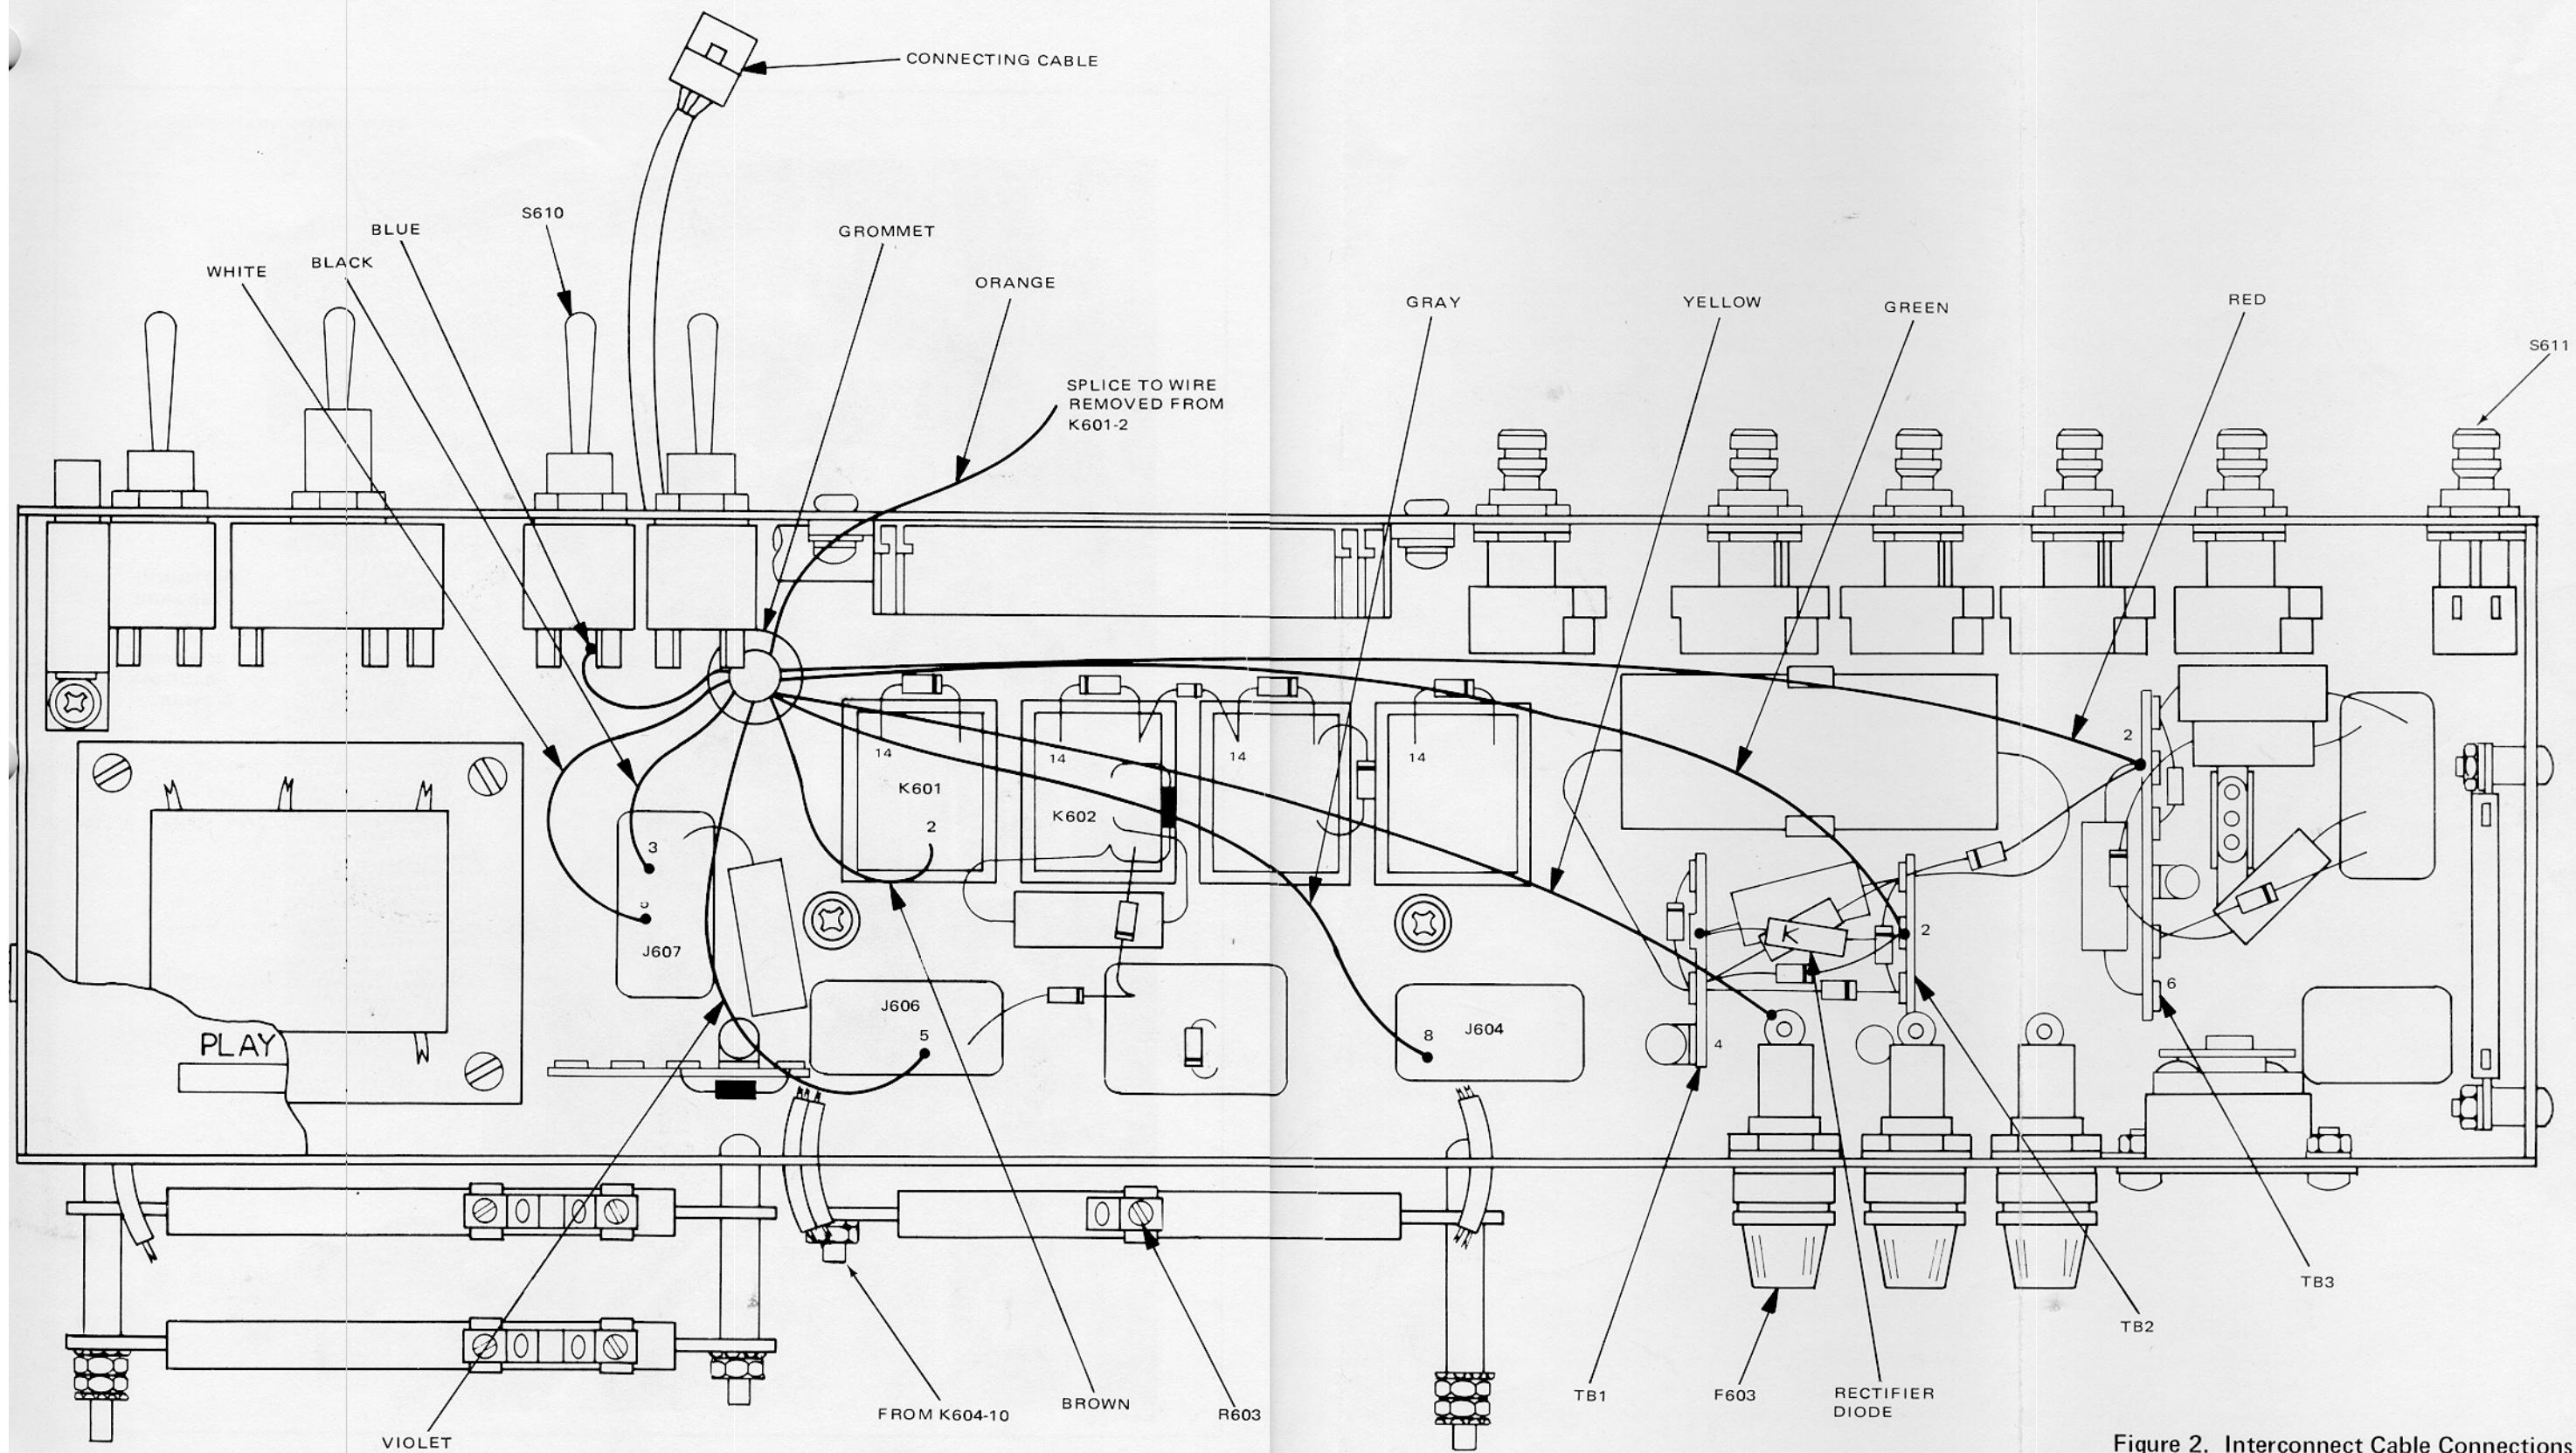

Figure 2. Interconnect Cable Connections
- ✓ 10. Connect the TS-40 interconnect cable wires in accordance with Table 2. See also Figure 2.